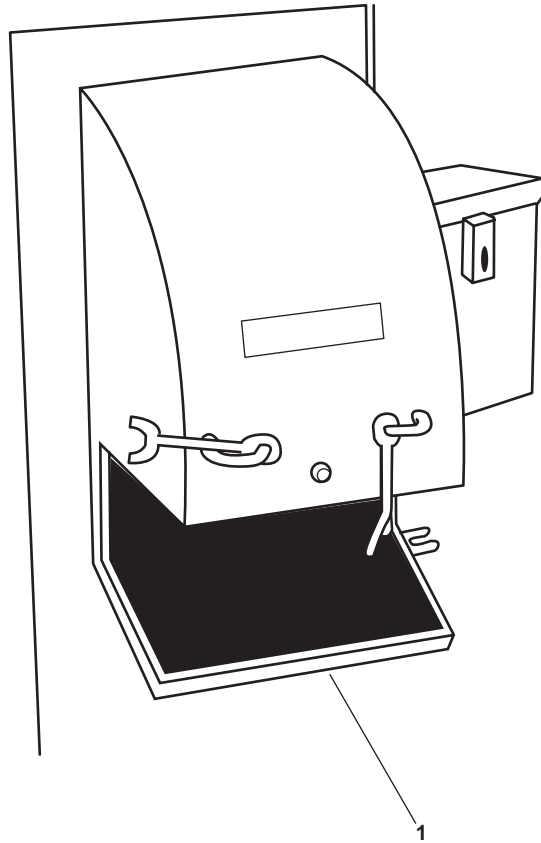

Figure 6. AMS 1 Exhaust Hinged Cover
- f. AMS 1 exhaust hinged cover (figure 6, item 1)